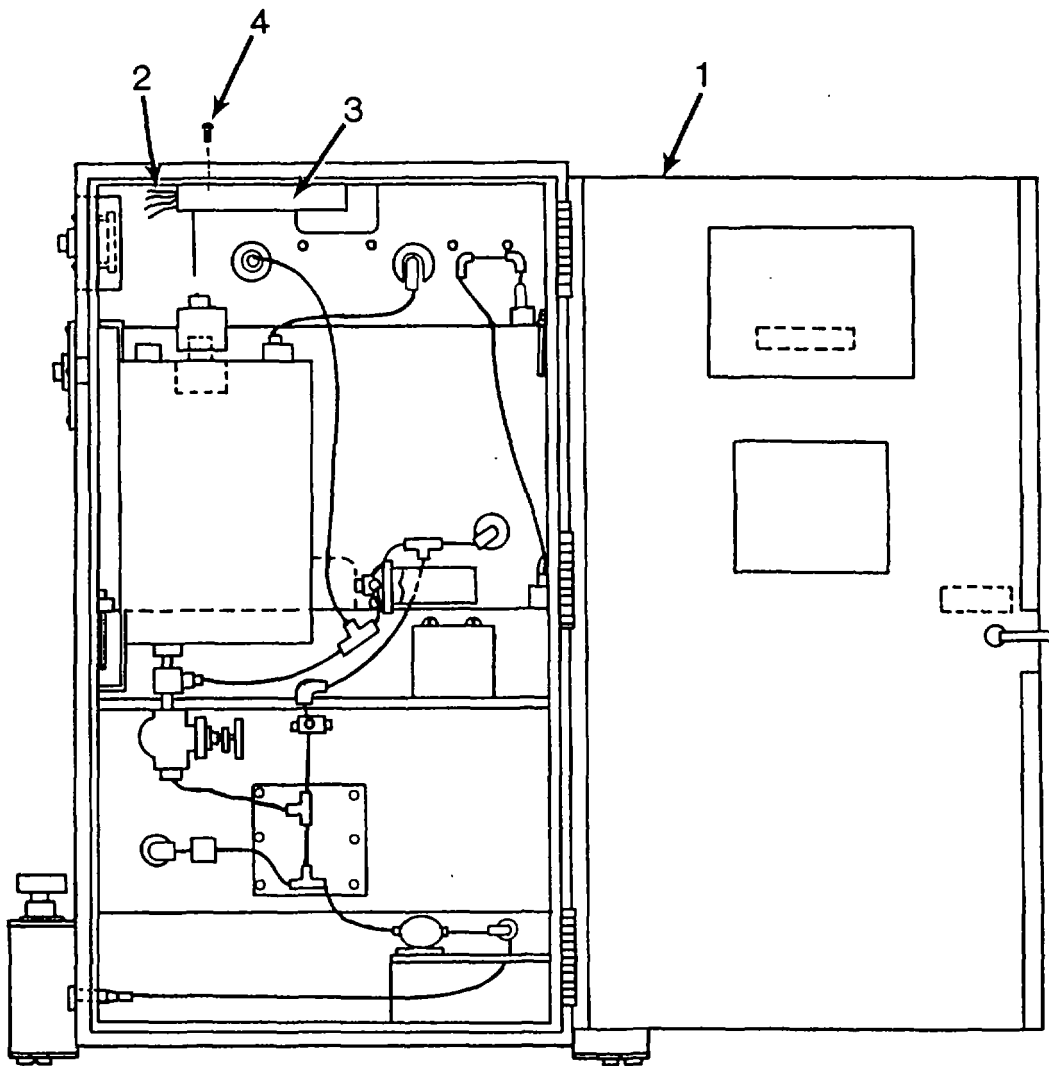

Figure 4-22. Replace Power Supply
f. Repair by replacing Power Supply. (Figure 4-22.)